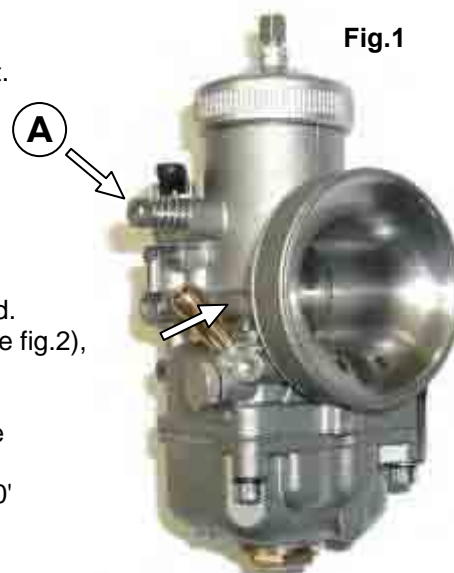

Fig.1
**The idle RPM** can be adjusted by means of the "A screw " (see fig.1), which intervenes on the throttle valve by slightly lifting or and lowering it.
A richer carburetion is attainable by turning the air screw "B" clockwise (see fig.1); on the contrary, by unscrewing, you get a leaner carburetion. It is suggested to gradually perform the adjustment by 5÷10' turns per time. Then check the result.